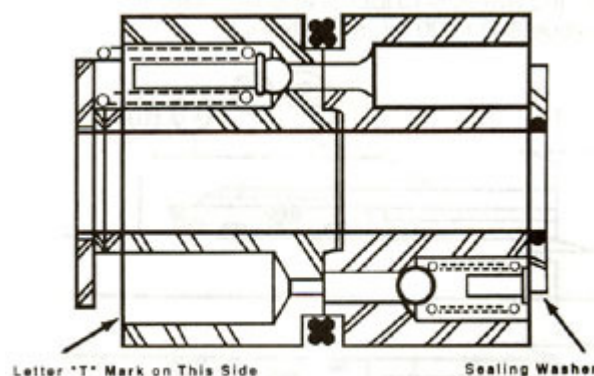

Figure 3. Piston Sealing Washer Location
11. Remove shipping bolt and washer from under piston assembly while holding piston upright. Place sealing washer in its proper position. Refer to assembly drawing below. (Figure 3)